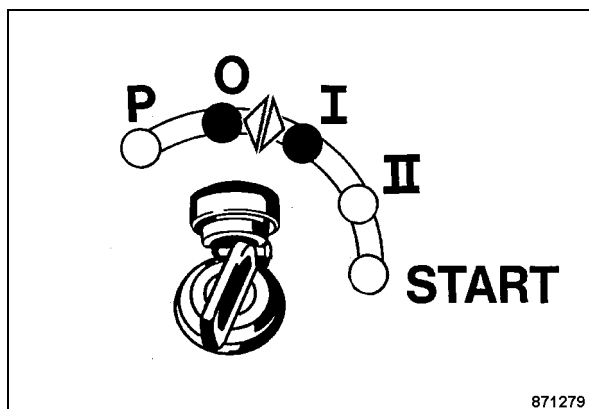

Fig. 81
- Switch the ignition off and on again (Fig. 81).